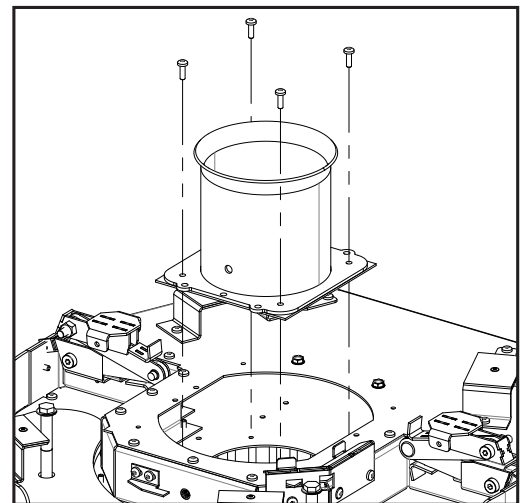

Figure 70: Exhaust Spigot Removal
8. Remove the exhaust spigot from the top of the unit by removing the four (4) T20 screws (see Figure 70). Be delicate with the gasket, you will be reusing this.